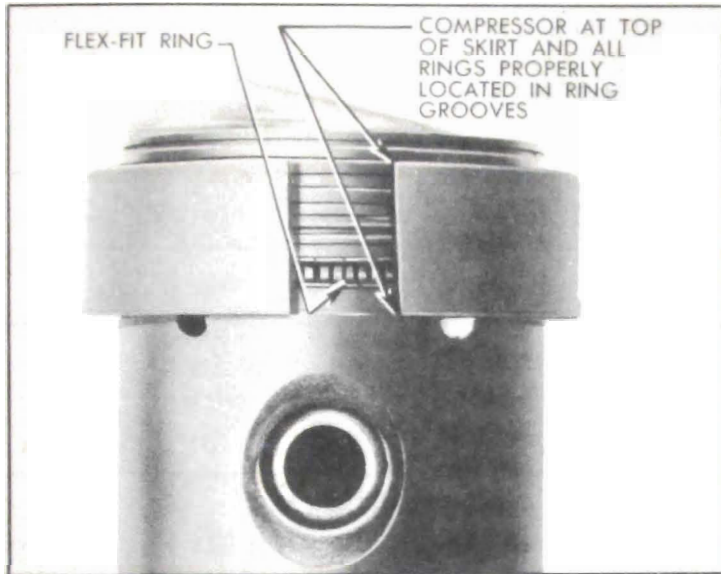

Figure 2-39—Rings Held in Place by Compressor
6. Before installation of each piston and rod assembly in cylinder bore, carefully place the Flex-Fit oil ring in the bottom groove and compress it with a tapered sleeve ring compressor of proper size. Make sure that inner surface of compressor is clean, smooth and free of burrs. The compressor must be pulled toward top of piston to compress the Flex-Fit ring as well as the other piston rings. See figure 2-39.